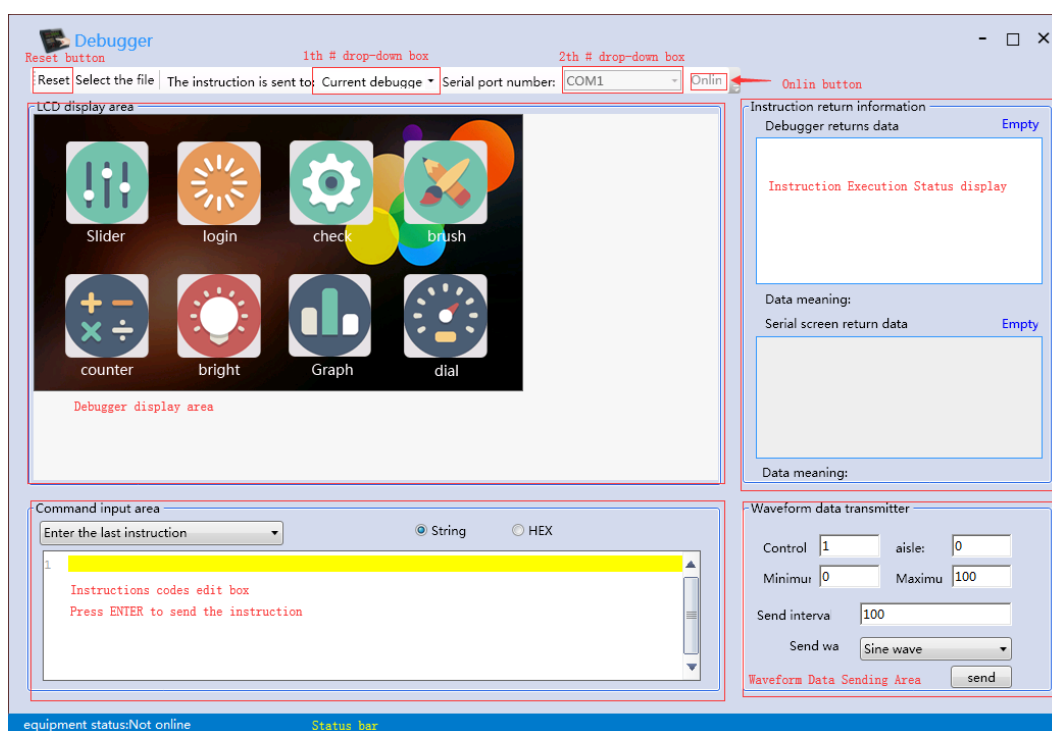

Figure 2-3
2. The second step is to open the debugging interface: Click the "Start Debugging" button to enter the debugging window, where the LCD screen can be simulated. As shown in Figure 2-3: